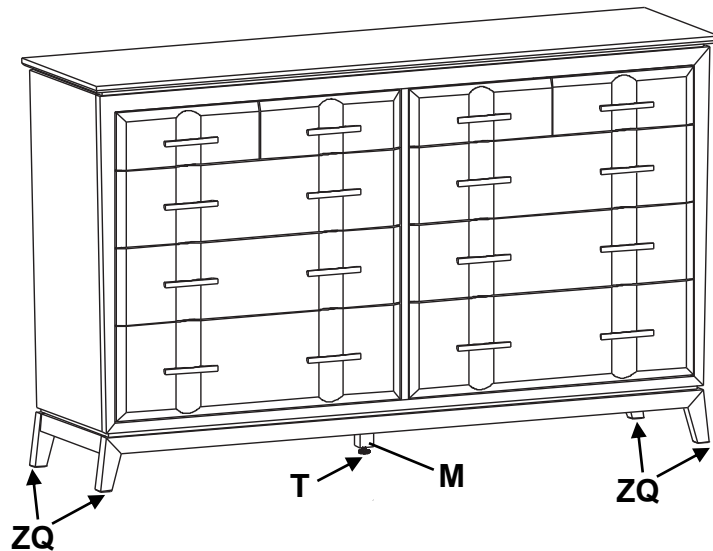

Fig. 4
4. Place the unit at its final destination. Rotate the Small Adjustable Glides (ZQ) found at the corners of the unit and the Adjustable Glide with Hex Nut (T) at the bottom of the Assembled Foot (M) until the unit is level. See Figure 4.